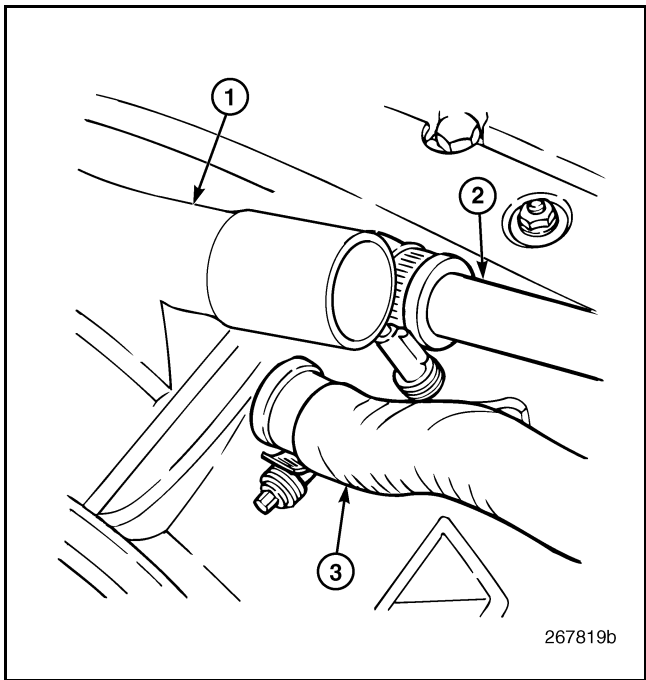

Figure 495 — Coolant Connections
4. Loosen the clamps and disconnect the coolant inlet and outlet hose connections at the front side of the EGR cooler (Figure 495).
2. Connect the coolant supply and return hoses at the cooler inlet and outlet tubes. Install the clamps and tighten to specification (Figure 495).